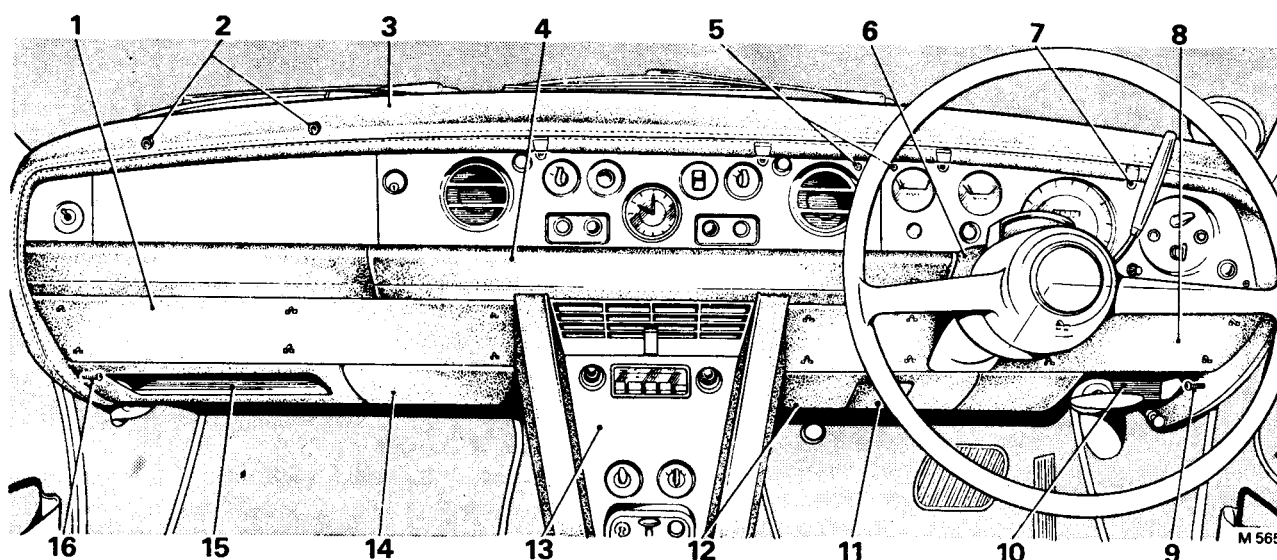

FIG. S108 VIEW OF TYPICAL FACIA TRIM (4-Door Saloon and Long Wheelbase Cars after Car Serial Number 6000)
5. On later cars (see Fig. S108), remove the polished wood facia as follows.
(b) Late cars (see Fig. S108). Remove the setscrews securing the top roll to the instrument board; also remove the two $\frac{7}{16}$ in. A/F nuts and washers situated above the door aperture inside the lockable cubby box.
- (b) **Late cars fitted with a front centre console** (see *Fig. S108*). Slacken the centre console assembly and move it away from the facia (see *Centre console—To remove, Operations 1 to 6 inclusive, in this Section*).
7. **On late cars fitted with a centre console** (see *Fig. S108*), remove the three trim pads situated below the lower roll; the pads are secured to the facia by spring type upholstery clips and a wedge-shaped removal tool will be required.